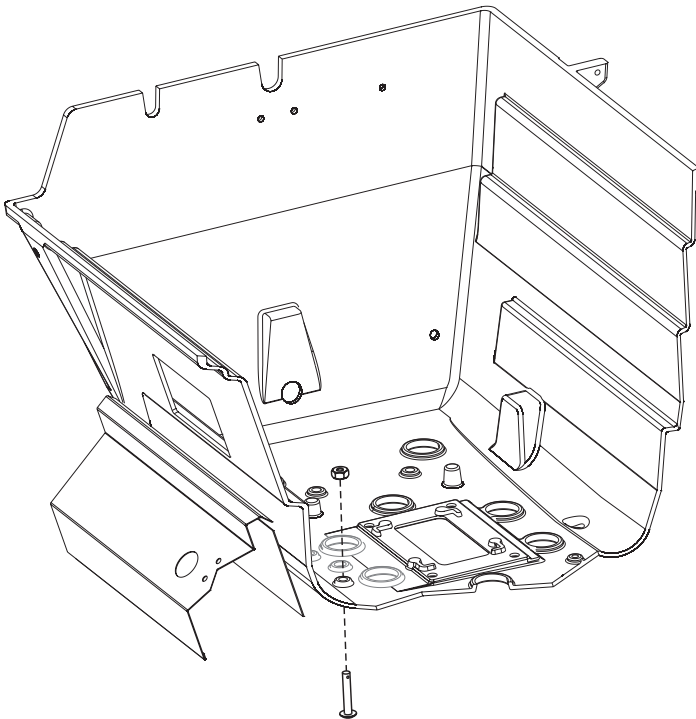

Figure 10
1. Insert the 1/4-20 x 1 1/2 Phillips Truss Head Screw from the underside of the grill and secure with the 1/4-20 Hex Nut. See Figure 10.